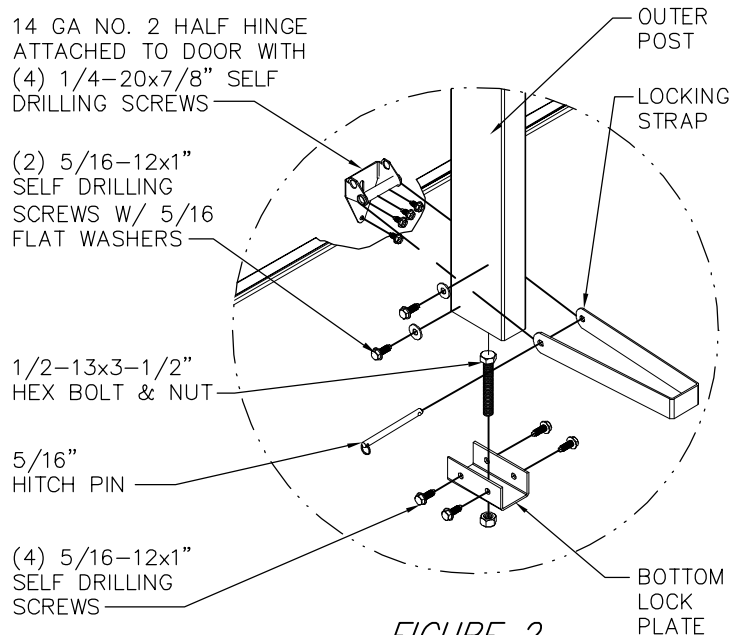

FIGURE 2
PLACE THE HALF HINGE AT THE BOTTOM OF THE BOTTOM SECTION IN LINE WITH THE INTERMEDIATE HINGES, UNDER THE LOWEST U-BAR (U-BAR REMOVED FOR CLARITY) AND ATTACH WITH (4) 1/4-20x11/16" SELF DRILLING SCREWS AS SHOWN IN FIGURE 2. ASSEMBLE THE BOTTOM LOCK PLATE BY SLIDING (1) 1/2-13x3-1/2" BOLT DOWN THROUGH THE TOP THE BRACKET AND SECURING WITH THE HEX NUT FROM BELOW. ATTACH THE BOTTOM LOCK PLATE TO THE BOTTOM OF THE OUTER POST WITH (4) 5/16-12x1" SELF DRILLING SCREWS AS SHOWN IN FIGURE 2.